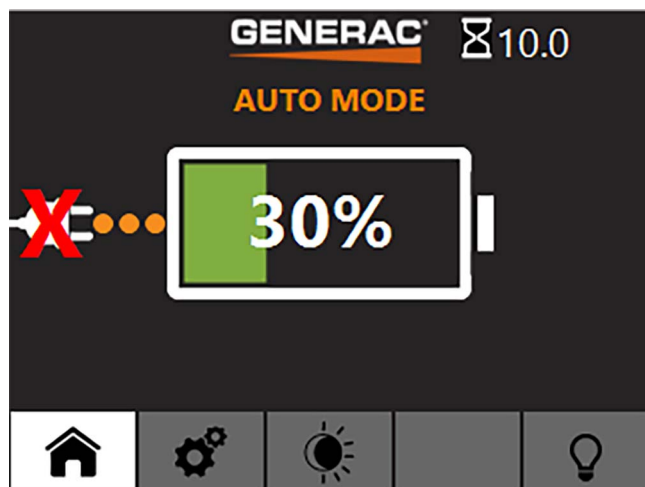

Figure 3-11. Battery Not Within Acceptable Charge Temperature Range Warning
4. Do not charge battery below 41° F (5° C) or above 113° F (45° C). The battery management system monitors and prevents discharging outside the acceptable range. The controller will display the crossed out charge symbol shown in Figure 3-11, when battery internal temperature is outside the acceptable temperature range.